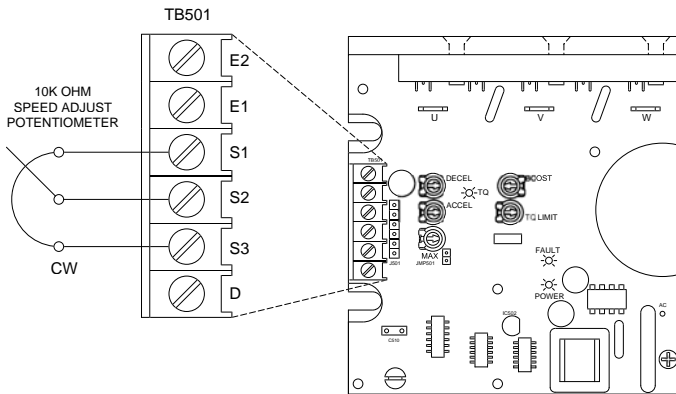

Figure 18. Speed Adjust Potentiometer Connections to TB501
Connect a speed adjust potentiometer to terminals S1, S2 and S3. Make sure the potentiometer is connected so that the motor speed will increase as the wiper (S2) is turned clockwise (CW). See Figure 18 below.